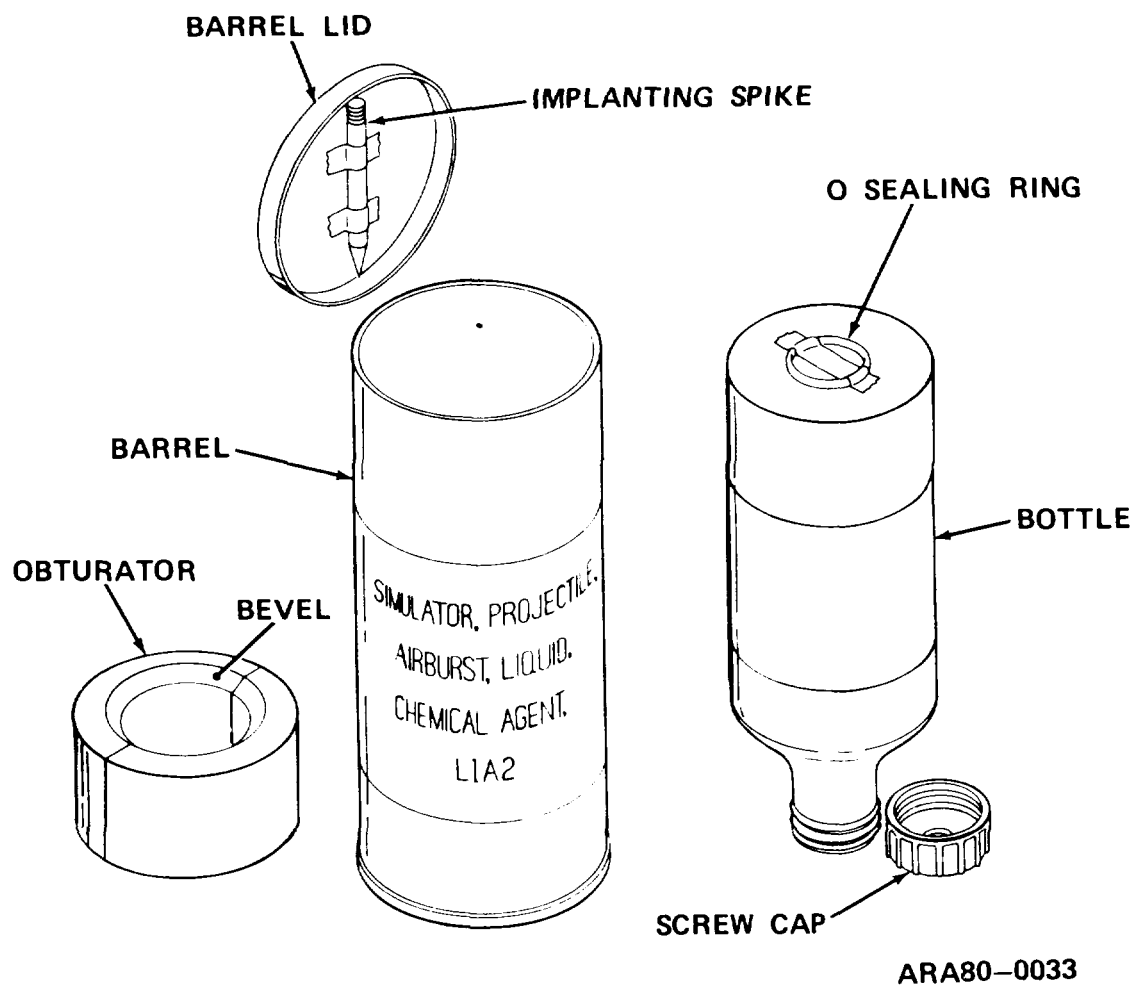
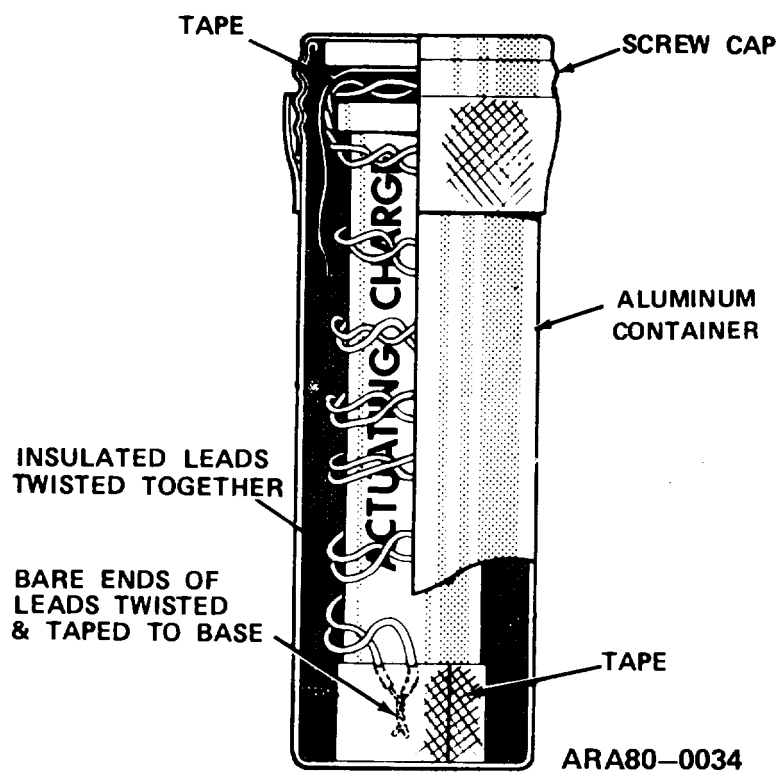
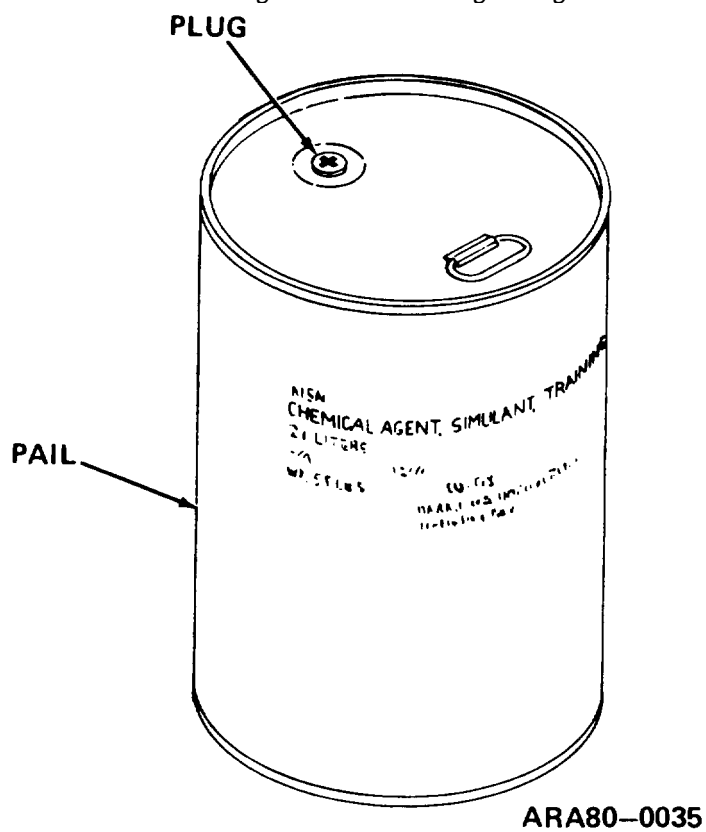
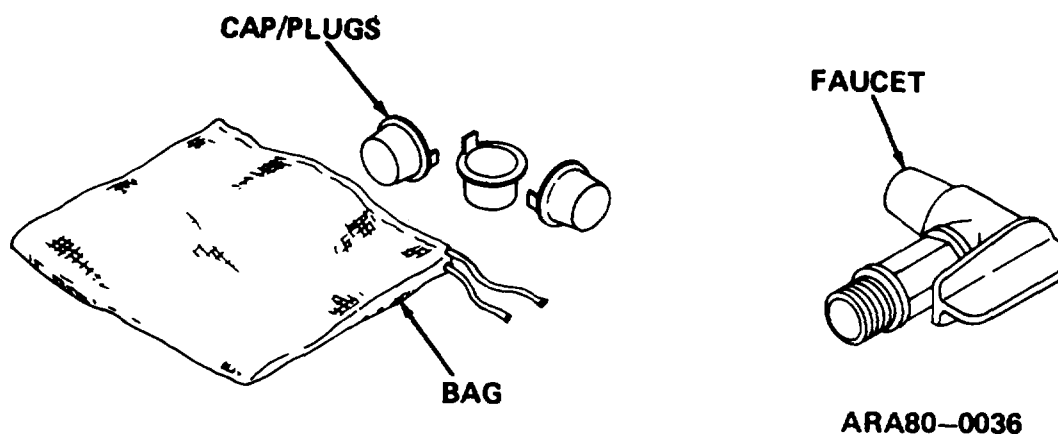

Figure 1-2. Projector Assembly.
Figure 1-3. Actuating Charge.
Figure 1-4. Chemical Agent Simulant and Pail.
Figure 1-5. Accessories (ARA80-0036).
a. *Projector Assembly.* The projector assembly (fig. 1-2) consists of:
(1) Barrel. Controls direction of bottle when fired. Has threaded bushing in center of base for implanting spike.
(2) Barrel Lid. Protects inside of barrel, and
(3) Obturator. A split cylinder located in bottom of barrel to prevent gases from escaping on firing.
(4) Implanting Spike. Is screwed into threaded bushing in base of barrel. Pushed into ground to ensure retention of barrel in vertical position.
(5) Bottle with Screw Cap. Holds the simulant and the actuating charge.
(6) O Sealing Ring. Seals the simulant in bottle when actuating charge is inserted in bottle.
b. *Actuating Charge.* The actuating charge (fig. 1-3), when in firing configuration and electrically charged, propels a simulant-filled bottle (fig. 1-2) into the air. A one-second, burn-through delay fuse sets off a burster charge. This ruptures the bottle in the air to produce a cloud of spray from the simulant.
c. *Chemical Agent Simulant.* Chemical Agent Simulant (fig. 1-4), composed of 90 parts by weight technical grade polyethylene glycol 200 and 10 parts by weight water, is a substitute for liquid chemical agents. It causes color changes in chemical agent detector paper in much the same way as liquid toxic chemical agents. The 5.5 gallons (21 liters) of simulant is contained in a 6-gallon pail. The pail has a threaded plug which is removed for installation of a faucet (fig. 1-5). The faucet is used to transfer simulant to projector assembly bottles (fig. 1-2).
(1) The cap/plugs (fig. 1-5) seal the bottles (fig. 1-2) when filled in an area away from launch site.
(2) The faucet (fig. 1-5) screws into the pail (fig. 1-4) when plug is removed. It is used to transfer simulant from pail to projector assembly bottles (fig. 1-2).
- (1) Use pliers to remove plug from pail (fig. 1-4). Cut bung seal with knife. Save plug.